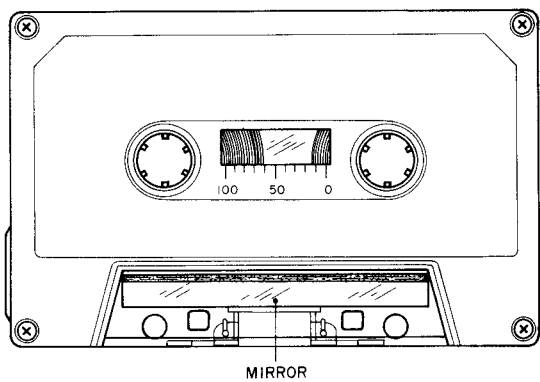

Fig. 11
1. When a 4 track, 1 kHz 0 VU recorded test tape is not available, for head height adjustment, use a cassette pack in which a mirror has been installed as shown in Fig. 11, and adjust head height adjustment screw until the edge of the head core and the edge of the tape are even.